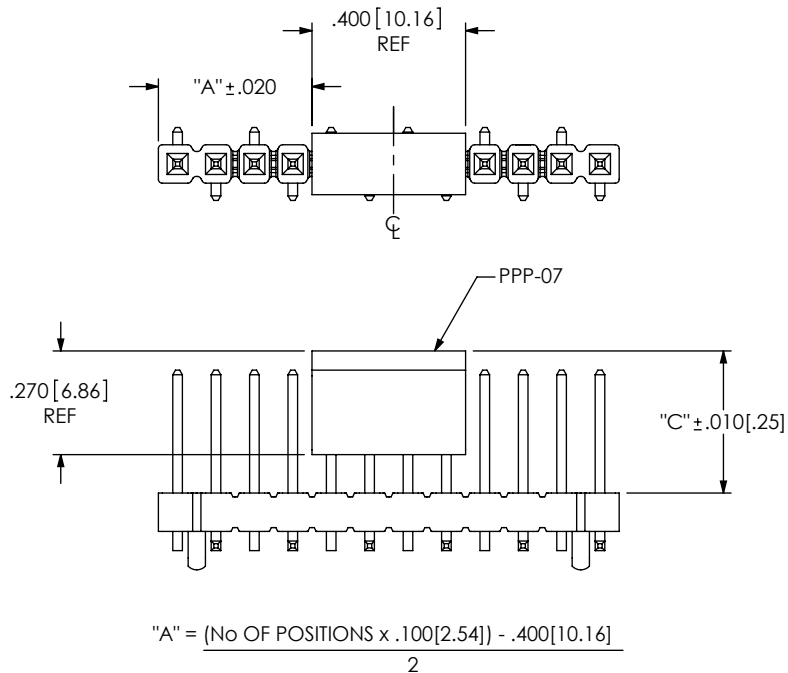

FIG. 2
-A: ALIGNMENT PIN (SEE FIG. 2)